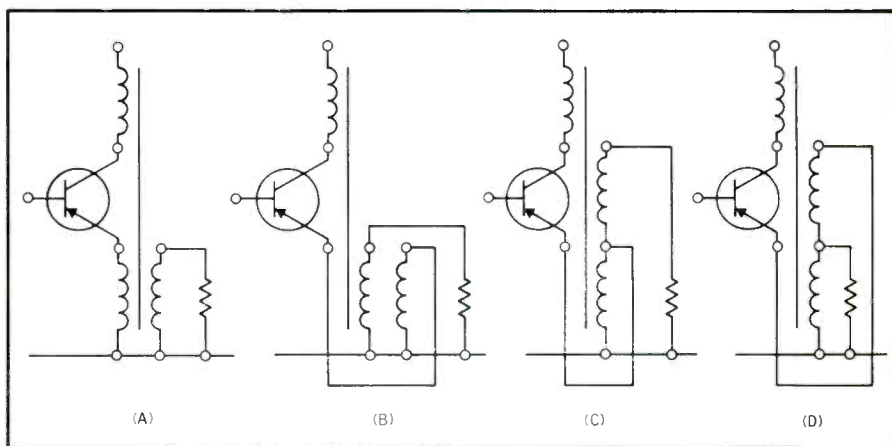

Fig. 2. The split-load stage displayed as a feedback amplifier.
In order to analyze the split-load circuit we may begin by rearranging it to see if it has any easily recognized characteristics. We can ground one side of the load, as we have done at (A) in Fig. 2, and then simply re-draw the emitter winding of the transformer in a different part of the paper, as we have done at (B) in the same figure. We do not know whether the load winding or the emitter winding has the more turns but in either event we can reduce the right side of the transformer to an auto-transformer of the form shown at (C) and (D). This configuration shows very simply the way in which we get negative feedback of a fraction (which may be improper) of the load voltage applied in series with the input of a common-emitter stage.